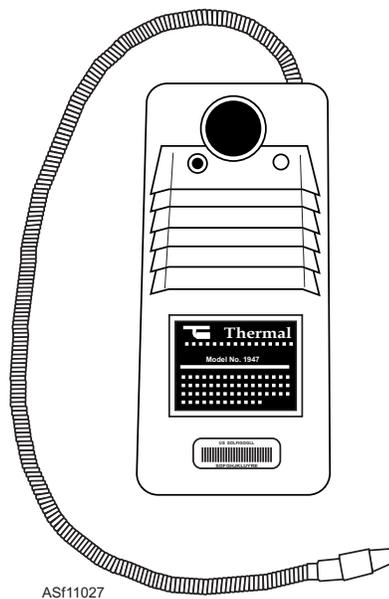

Figure 11-27.—Halogen leak detector.
**HALOGEN LEAK DETECTOR TEST.**—The use of a halogen leak detector is the most positive method of detecting leaks in a refrigerant system (fig. 11-27). It is a portable, battery operated electronic leak detector. It is capable of finding leaks as small as ½ ounce per year as well as large leaks in areas where background contamination may be present.